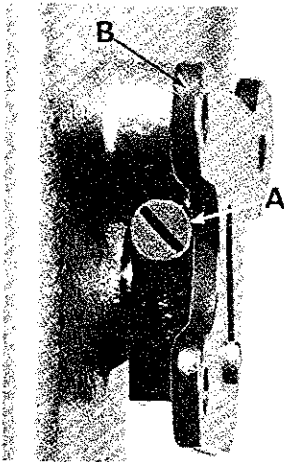
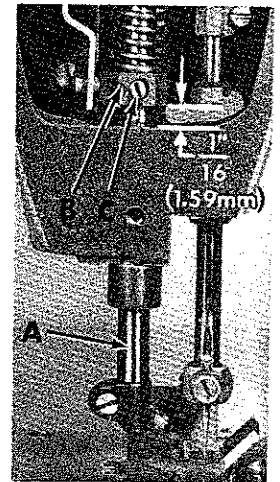

Fig. 11
Fig. 12
If adjustment is needed, loosen tension release lever screw (A, Fig. 11), located at the back of the machine and move tension disc separator as required. Retighten screw. After adjustment there should be no binding at any point.
The height of the presser bar (A, Fig. 12) is set correctly if it is possible to remove the presser foot when the foot lifter lever (B, Fig. 11) is fully depressed. Also, there should be approximately 1/16 inch (1.59 mm) clearance between lower surface of the presser bar connection and guide (B, Fig. 12) and the bottom surface of head opening in the bed when the foot lifter lever is released and the presser foot resting on the throat plate, with the feed dog down below the throat plate.
If adjustment is needed, turn handwheel in operating direction until the needle bar is in the low position. Loosen screw (C, Fig. 12). Then, while holding presser foot down on the throat plate surface, pry up presser bar connection and guide with a screwdriver to obtain the 1/16 inch (1.59 mm) setting and tighten screw (C). Check setting by turning handwheel so that needle bar is in its high position and see if presser foot can be removed as mentioned in previous paragraph.